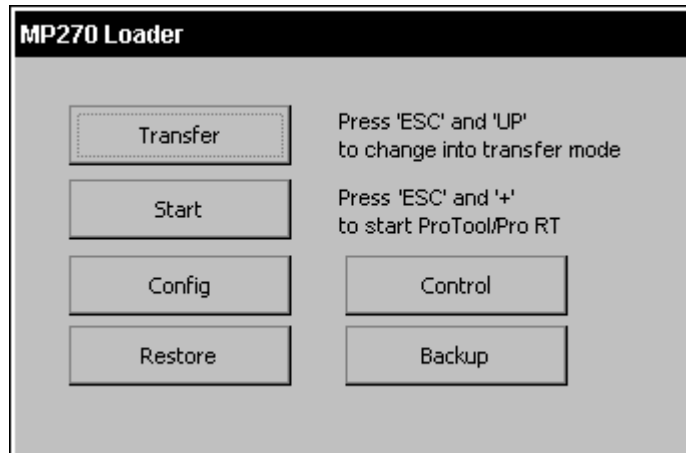
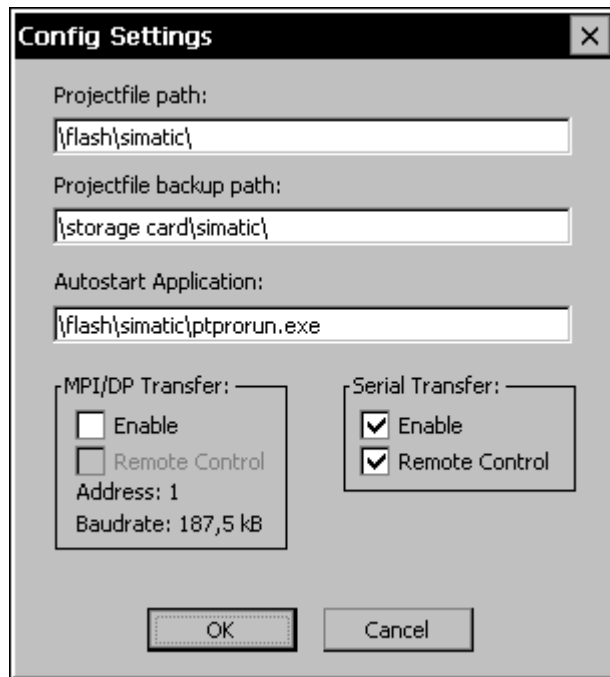

Figure 3-1 MP270 Start menu
Figure 3-2 MP270 Configuration menu
To terminate the runtime software, press the operating element assigned the *Exit_runtime* function in the configuration. Wait until the MP270 start menu (Figure 3-1, Page 3-7) appears and then switch off the power supply.
2	Connect the MP270 to the configuration computer according to the settings in the Config Settings menu (Figure 3-2, Page 3-8) via the IF2 (serial) or IF1B (MPI/PROFIBUS-DP) interface using a standard cable.
3	If necessary, check the interface settings in the Config Settings menu (Figure 3-2, Page 3-8) and adapt them as required.
3	If necessary, check the interface settings in the Configuration menu (Figure 3-2, Page 3-8) and adapt them as required.
4	During the start-up phase of the MP270, the menu depicted in Figure 3-1 (Page 3-7) appears briefly. Press the Download button to set the operating unit to Download mode before the start-up routine is completed. The operating unit continues to display the message Connecting to host until it receives data from the configuration computer or the Cancel button is pressed. If the message Connecting to host does not appear, it is probable that the options for download mode have been incorrectly set (refer to Page 3-8).
The MP270 can be switched to download mode automatically when in normal operation as soon as downloading is started on the connected configuration computer. This option is particularly recommended for the test phase involving a new configuration project because the data is transferred without having to intervene on the MP270. A condition for this is that the following settings have been defined in the Config Settings menu (Figure 3-2, Page 3-8):
Following the start-up phase, switch the automatic download option off to prevent inadvertently switching the MP270 to Download mode in a system which is running. Deactivate the options *MPI/DP Transfer Remote Control* and *Serial Transfer Remote Control* in the MP270 Configuration (Figure 3-2, Page 3-8).
- The memory card is defined in the Config Settings menu (Fig. 3-2, Page 3-8) under the item *Projectfile path*.
The options for download mode can only be set during the MP270 start-up phase. During the start-up phase the Start menu depicted in Figure 3-1 appears. Press the *Config* button to call in the Config Settings menu depicted in Figure 3-2.
Press the *OK* button to confirm the settings currently defined for the download options. The Configuration menu is closed and the Start menu depicted in Figure 3-1 appears.
Press the *Cancel* button to close the Configuration menu and access the Start menu depicted in Figure 3-1. Any modifications made to the settings are rejected.